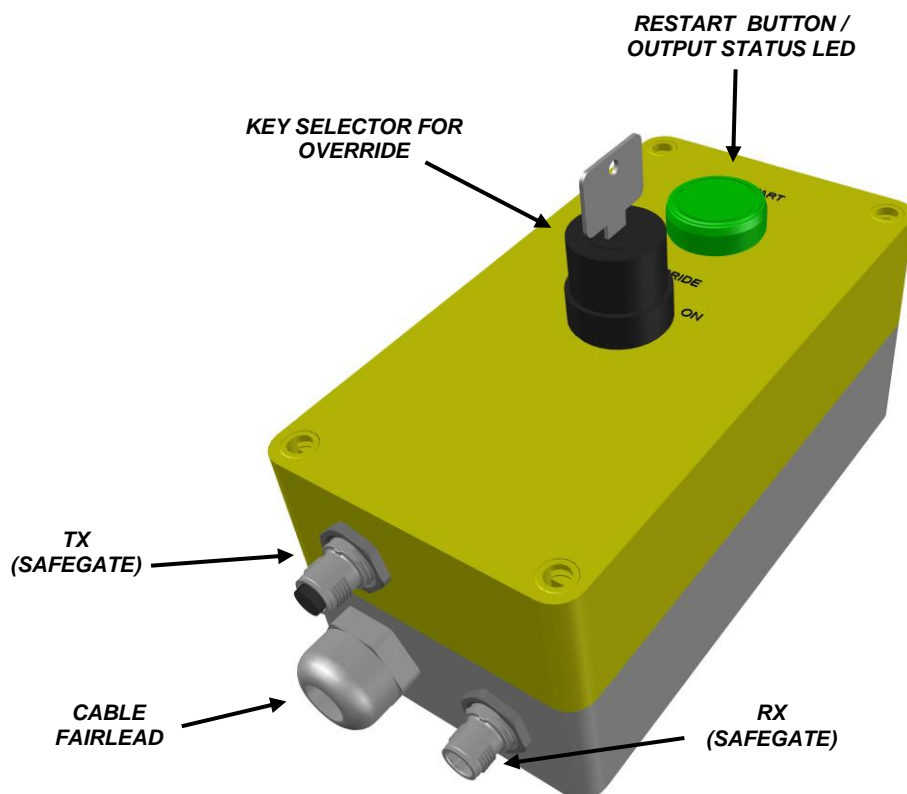

Figure 1 - M SG BOX – Connections and signals
- The light curtain must be connected to the respective connectors M12 (Fig.1) using the dedicated cables.